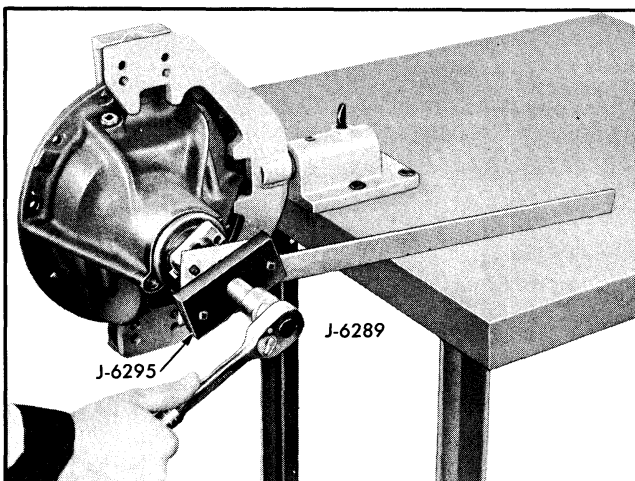

Fig. 4-38 Removing Companion Flange with Puller J-6295
12. Remove companion flange, using puller J-6295 and holding tool J-6289 (Fig. 4-38).